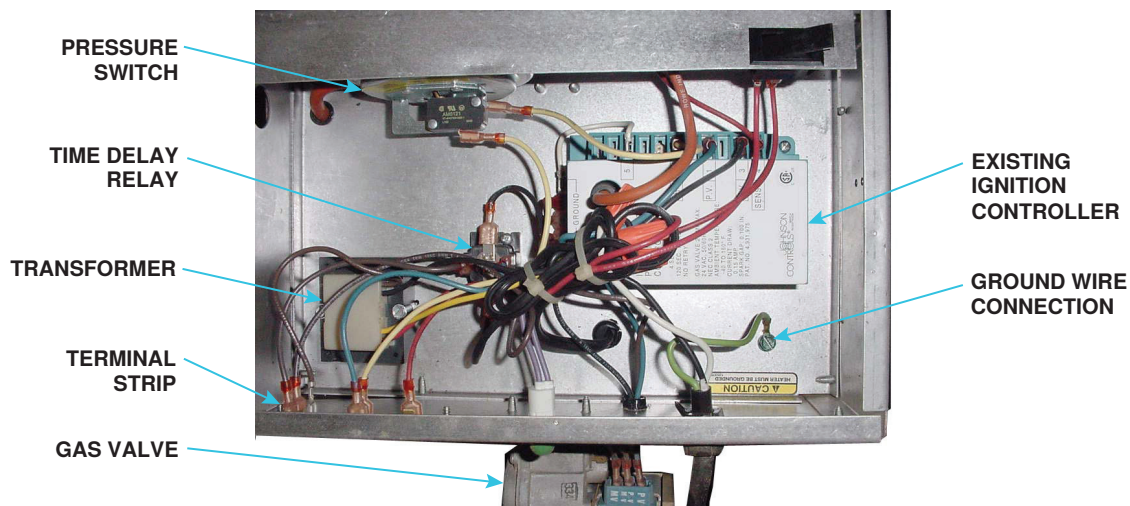

Figure 53. Model TR Control Compartment
3. Install green ground wire assembly at ground wire connection (see Figure 53)—two ground wires are now connected at ground screw.
8. Install replacement ignition controller in same location (see Figure 53):